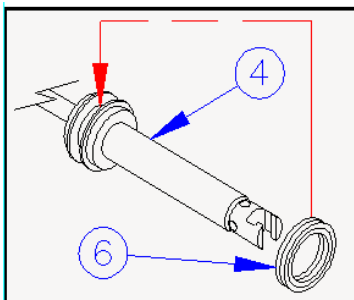
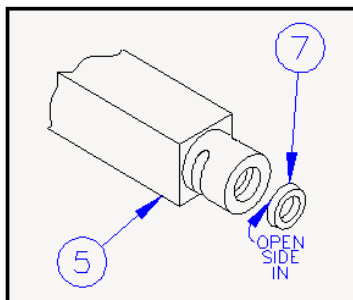
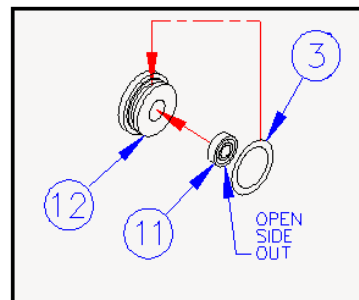

Figure 9. Rod Assembly Seal Installation
Figure 10. Power Head Seal Installation
Figure 11. Diaphragm Seal Installation
Install one High Pressure “Quad” Seal (6) onto the Rod Assembly (4) as shown in figure 9. Install the other “U” Cup (7) into the groove on the inside of the Power Head Body, with the open side of the “U” Cup Seal facing in, as shown in figure 10. Likewise, using a seal installation tool or small screwdriver with no sharp edges, install the smaller “U” Cup Seal (11) into the groove on the inside of the Insert (12) with the open side of the “U” Cup Seal facing out, and then install the “O” Ring (3) on the outside of the Insert, as shown in figure 11. After installation, lubricate the outside of the “U” Cup Seals with a liberal amount of KRYTOX® lubricant (included in the Seal Kit). Assemble item in the reverse order per figure 8.